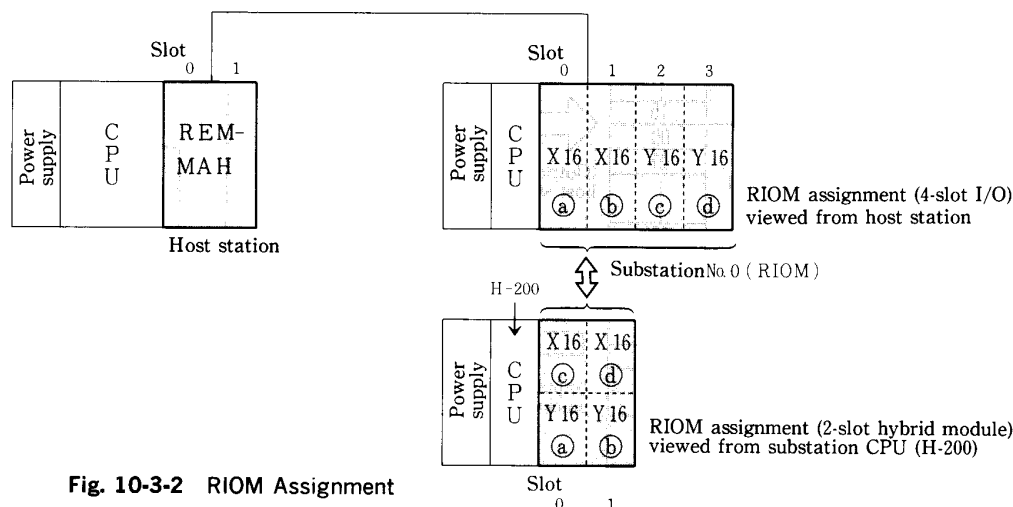

Fig. 10-3-2 RIOM Assignment
Y16 and Y16, this order fixed.) On the other hand, a substation CPU (H-200) regards RIOM as a 2-slot hybrid module (slot 0: X16, Y16, slot 1: X16, Y16). The area is linked between the host station and substation. Input (X) of the host station link area is sent from the substation (input (X) corresponds to output (Y) when viewed from the substation CPU). Output (Y) from the host station is fetched into the substation (output (Y) corresponds to input (X) when viewed from the substation CPU). Therefore, link areas correspond between the host station and substation as indicated by (a), (b), (c) and (d) in Fig. 10-3-2.
In the system shown in Fig. 10-3-2, RIOM numbers correspond as listed below.